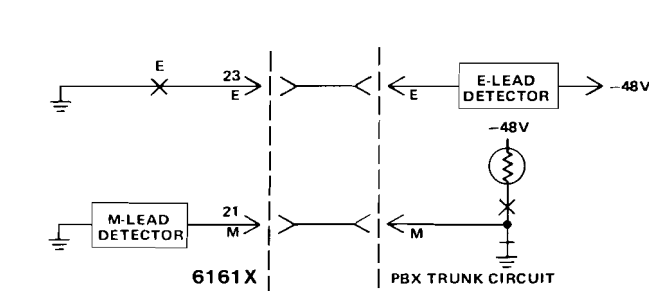

figure 5. Type I E&M interface (TL31M or TC31M); A side
2.11 Figures 5 through 9 show the various E&M signaling interfaces listed in table 2. Either Type I, II, or III E&M signaling interface can be selected via switch. Type I is often used with electromechanical switching systems, while Types II and III are often used in electronic switching environments.